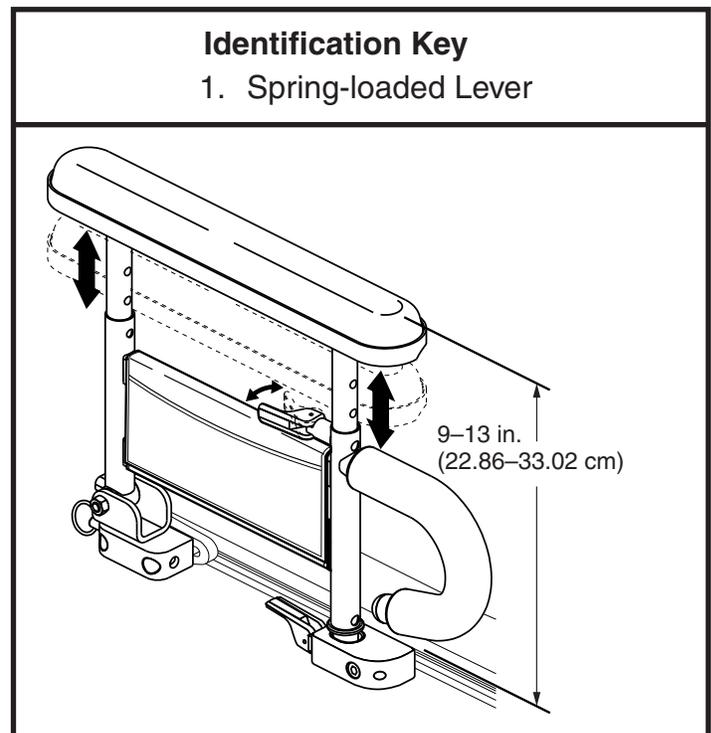

Figure 12. Two Post Armrest Height Adjustment
1. Push the spring-loaded lever inward. **See figure 12.**